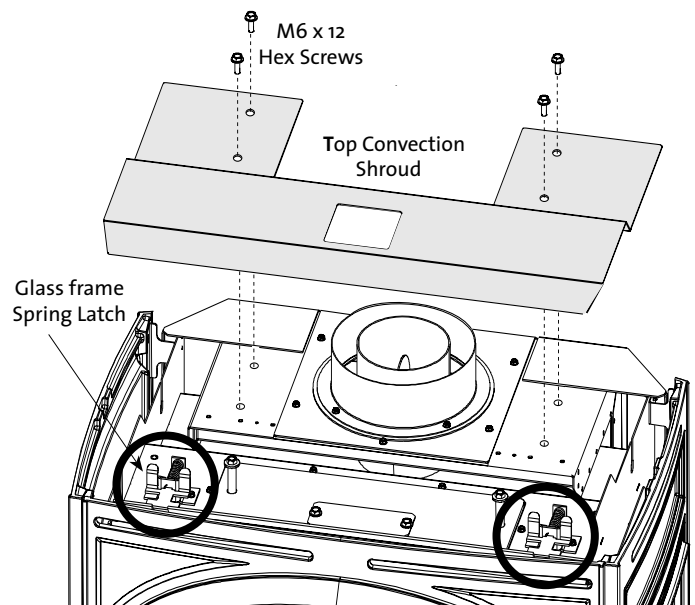

Figure 2a. Remove the Top Convection Shroud and disengage the glass frame latches.
a) Remove four hex head screws using a 10 mm wrench and disengage the Top Convection Shroud from the top of the firebox. See fig. 2a.